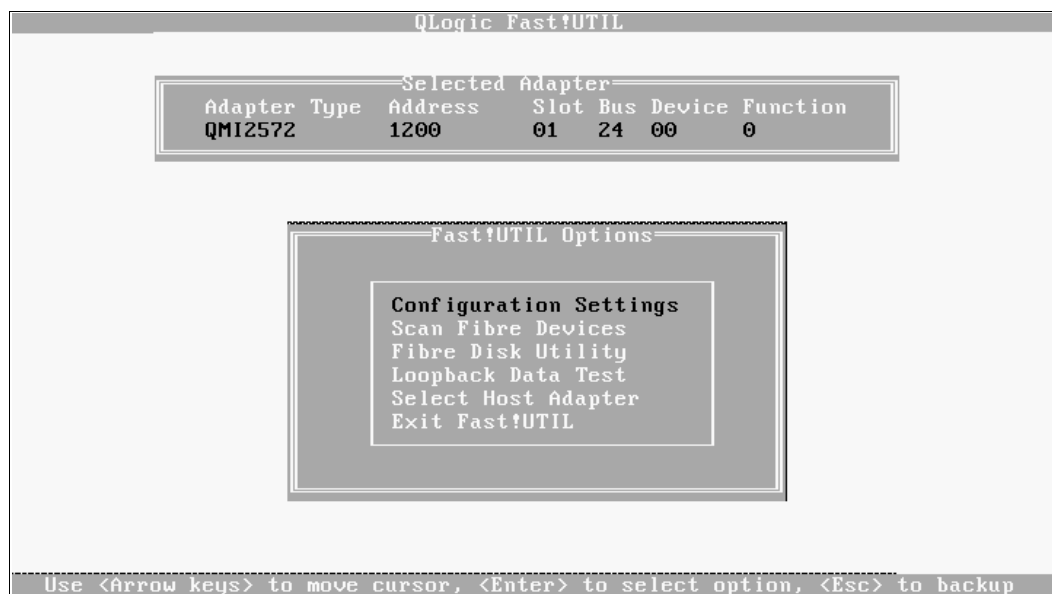

Figure 22-7 HBA Configure Settings
3. Select **Configure Settings** for the selected HBA card and press Enter as shown in Figure 22-7 on page 654.